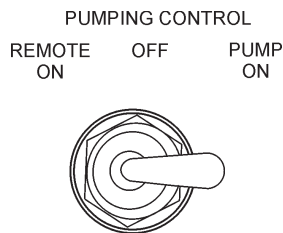

Figure 23. Pumping Control Switch (ON)
- To begin pumping concrete. Place the pumping control switch (Figure 23) in the **ON** position